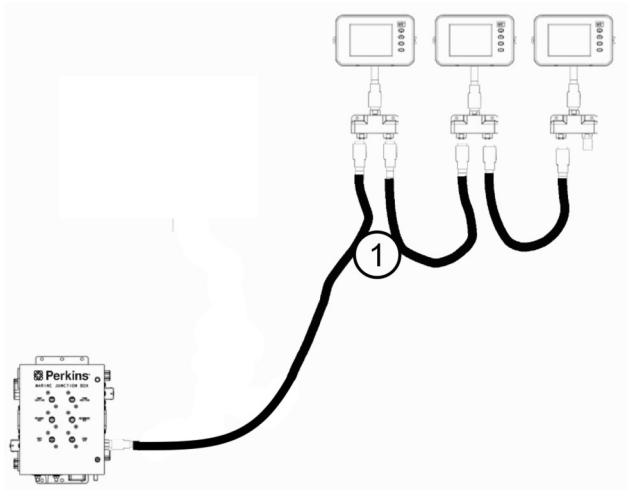

Figure 15
The J1939 data link (item 1 figure 15) can not exceed 40 meters (131ft.).